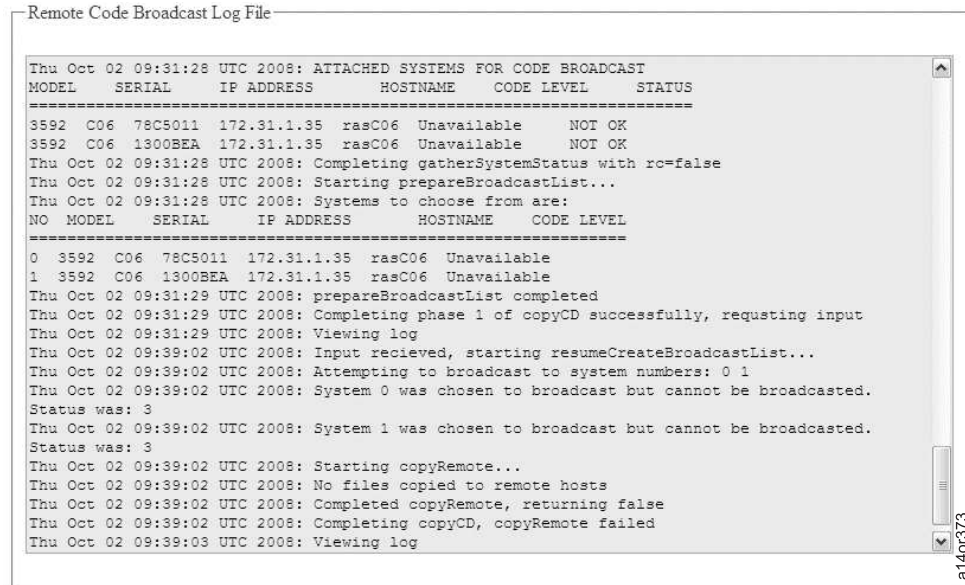

Figure 159. Remote Code Broadcast Log File. See Table 15 for a list of the possible status messages.
- Option 2: After you select the systems to broadcast and the page reloads, you see a status message at the top of the screen. Use option 2 "View the Log File" to see the details of the broadcast. This log lists the code that was successfully broadcast and the code that was successfully finalized. If an error occurred, the log file will specify where the load failed. Figure 159 on page 130 shows you a sample of status in a log file.
Table 15. Code Load Status Messages - From Web Interface. See Figure 159 for an example of broadcast status.